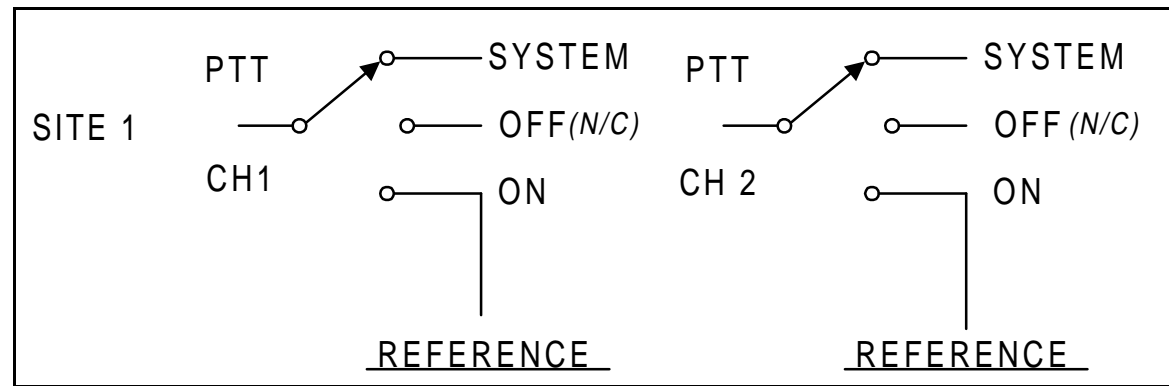

Figure 1 - Typical PTT Switch Configuration (P1)
Control Panel 19D902522P1 consist of seventy five (75) three position switches and is used in conjunction with Simulcast Control Crossconnect Panel 19D902550G1 (refer to Maintenance Manual LBI-38491). Control Panels 19D902522P2 & P3 consist of seventy two (72) three position switches and are used in conjunction with GPS Simulcast Control Crossconnect Panel ROA 117 2255 (refer to Maintenance Manual AE/LZB 119 2908/1). Each control panel controls Push-To-Talk (PTT) or Analog/Digital (A/D) for three sites with 25 channels each (24 channels for GPS Simulcast). Refer to Figures 1, 2 & 3 for typical switch configurations.